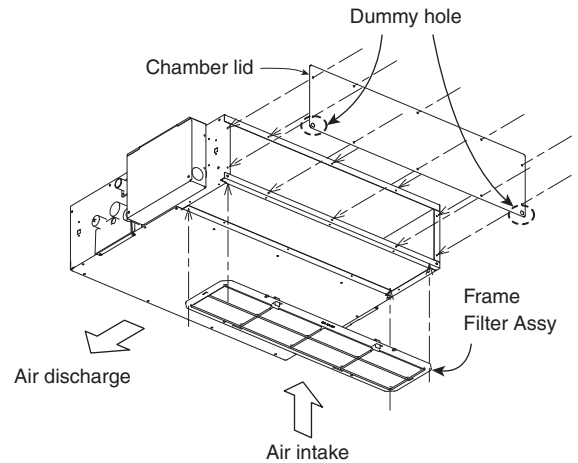

Fig. 3-57-2
- (2) Refer to the diagram to attach the chamber lid and frame filter assy in the direction of the arrow. (Fig. 3-57-2)